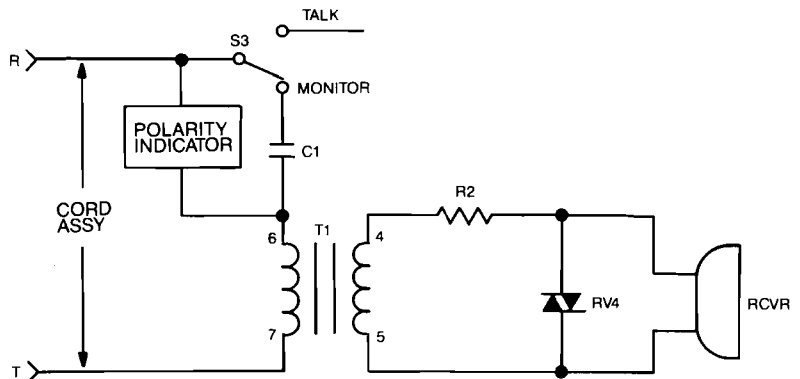

Fig. 5 - Condensed Functional Schematic of TS21 Test Set (Monitor Mode).
5.03 Monitor Circuit (Figure 5): When the **TALK/MONITOR** switch is placed in the **M** position, the transmitter is disconnected from the line, and a high-impedance transmission path is established from the tip and ring conductors to the receiver via monitor transformer T1 in conjunction with capacitor C1. C1 is a dc-blocking capacitor to prevent the seizure of the central office while the set is in the monitor mode. The settings of the **KEYPAD IN/OUT** and **MODE** switches have no effect on the operation of the set in this mode.